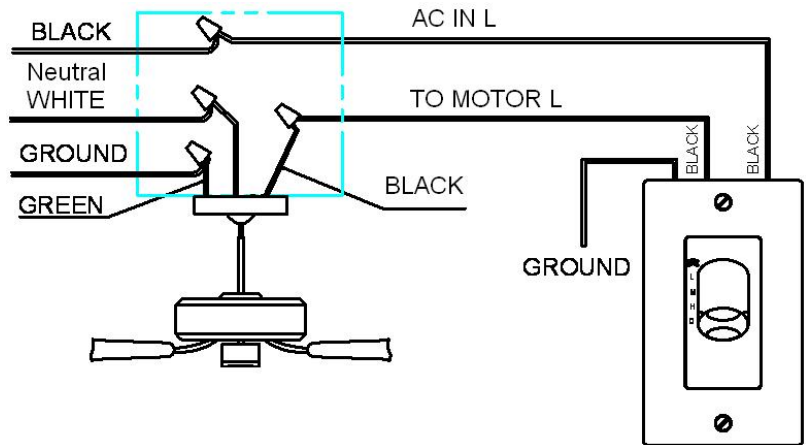

Figure 1
1. Installing Wall Control(Figures 1):
.Make wiring connections with wire nuts as shown in Figure 1.